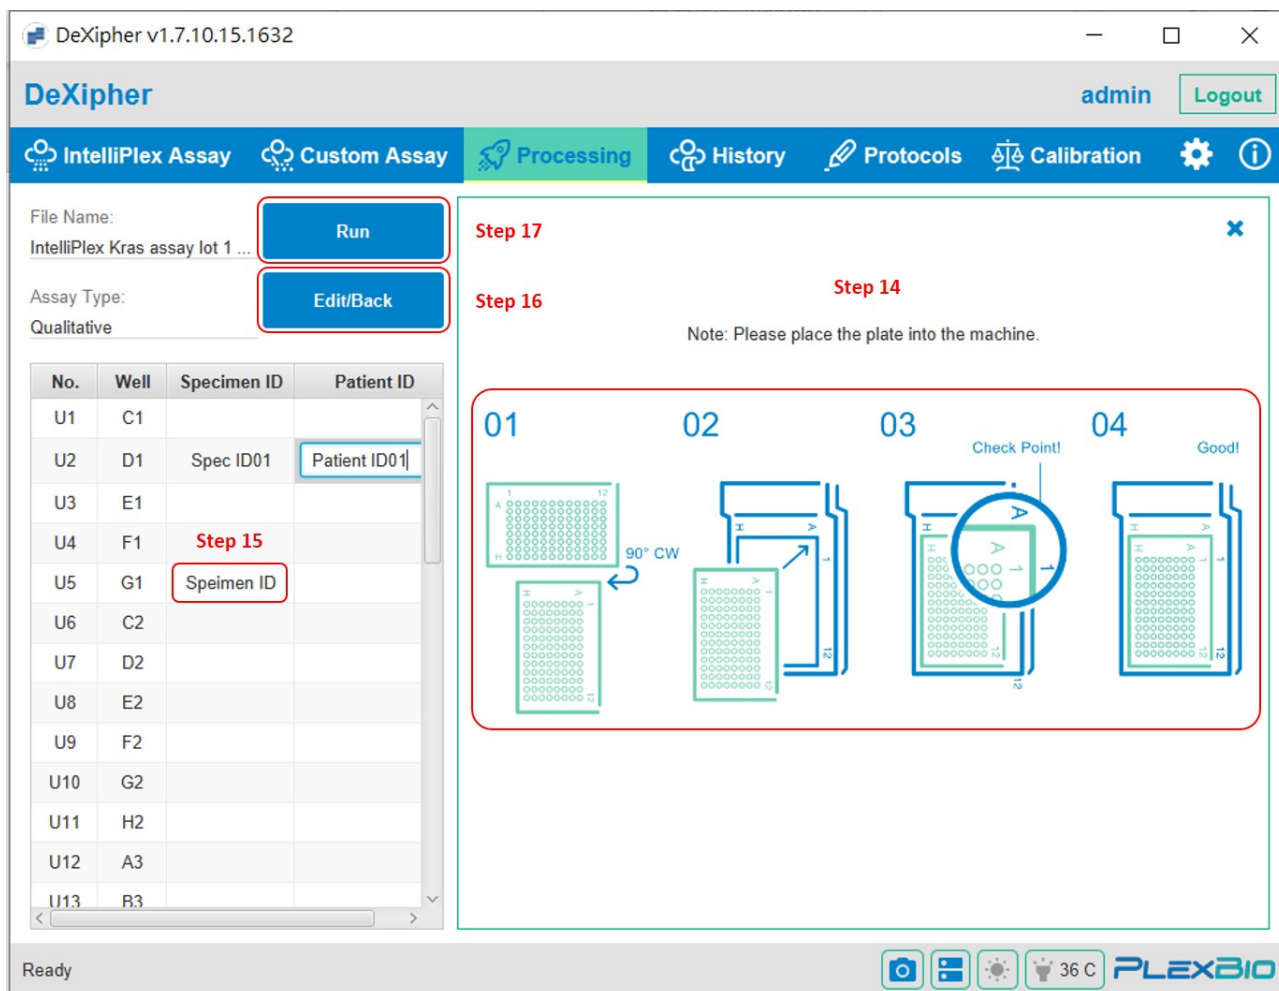

Fig. 15. IntelliPlexAssay - Processing
Step 14. Follow the drawing in Fig. 15 to put the 96-well plate onto the stage (plate holder) with the correct orientation.